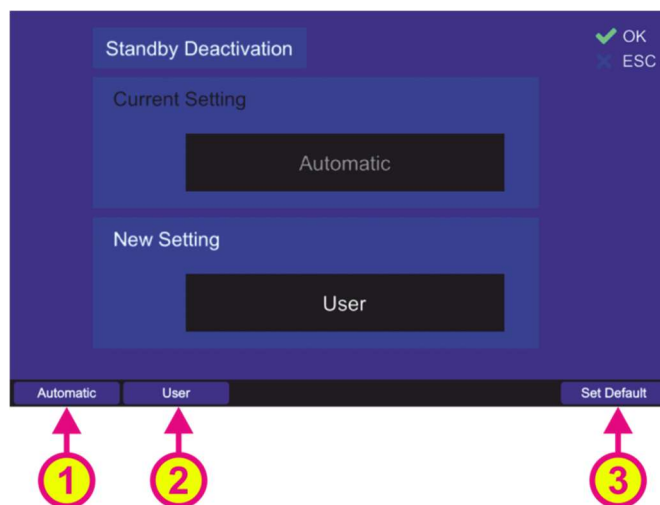

Figure 101. Changing the standby deactivation setting
Following dialog opens (s. Figure 101. Changing the standby deactivation setting Figure 101).
- Press the hotkey "Automatic" (s. Figure 101, position 1) in order to enable the automatic standby mode deactivation.